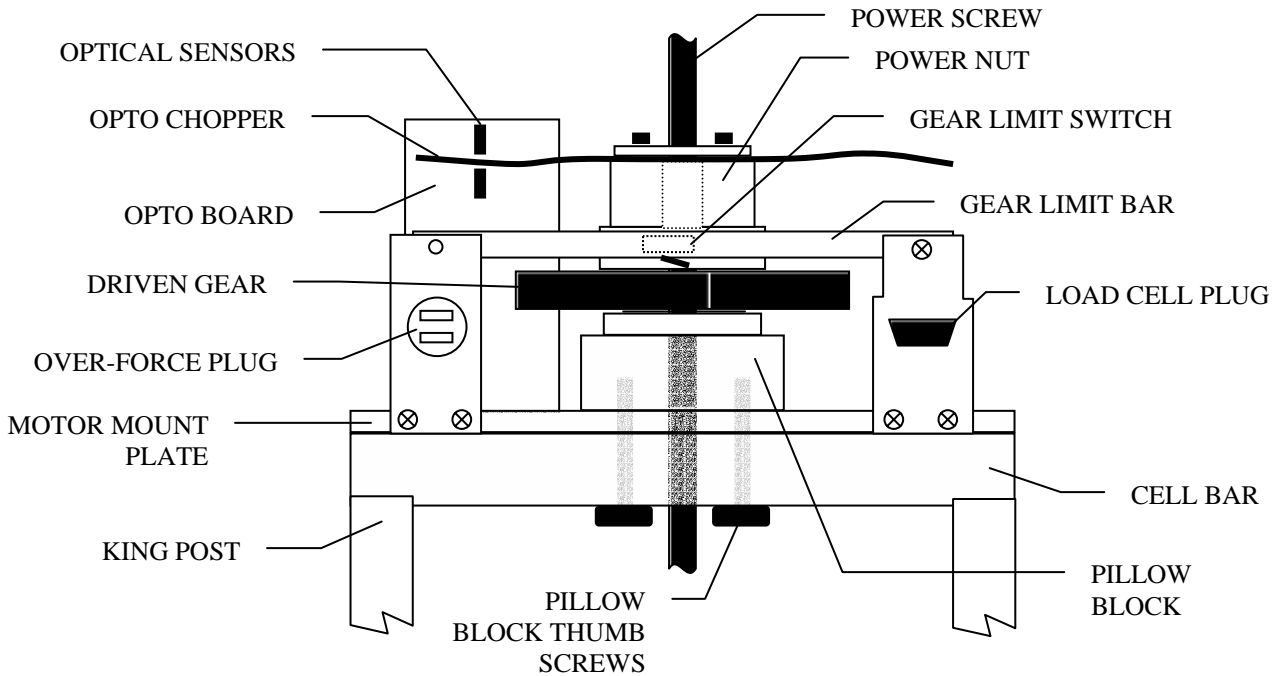

Figure 3.7 – DRIVE TRAIN (FRONT VIEW)
4. Verify that the Test Stand and ComTouch power switch is in the OFF position. While holding the Load Cell in one hand, plug it into the top of the Test Stand (See Figure 3.7 – DRIVE TRAIN (FRONT VIEW) on page 19).